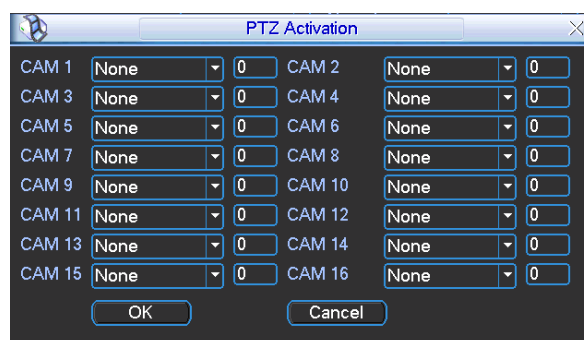

Figure 4-29
- PTZ activation: Here you can set PTZ movement when alarm occurs. Such as go to preset, tour& pattern when there is an alarm. Click “select” button, you can see an interface is shown as in Figure 4-29.